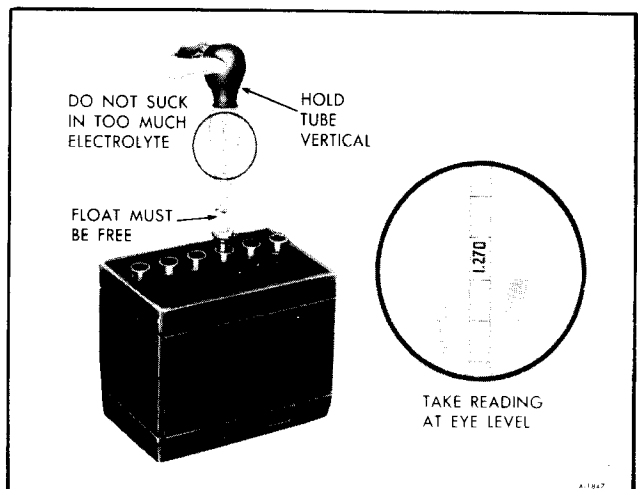

Figure 8—Checking Specific Gravity
**Specific Gravity Readings (Figure 8)**